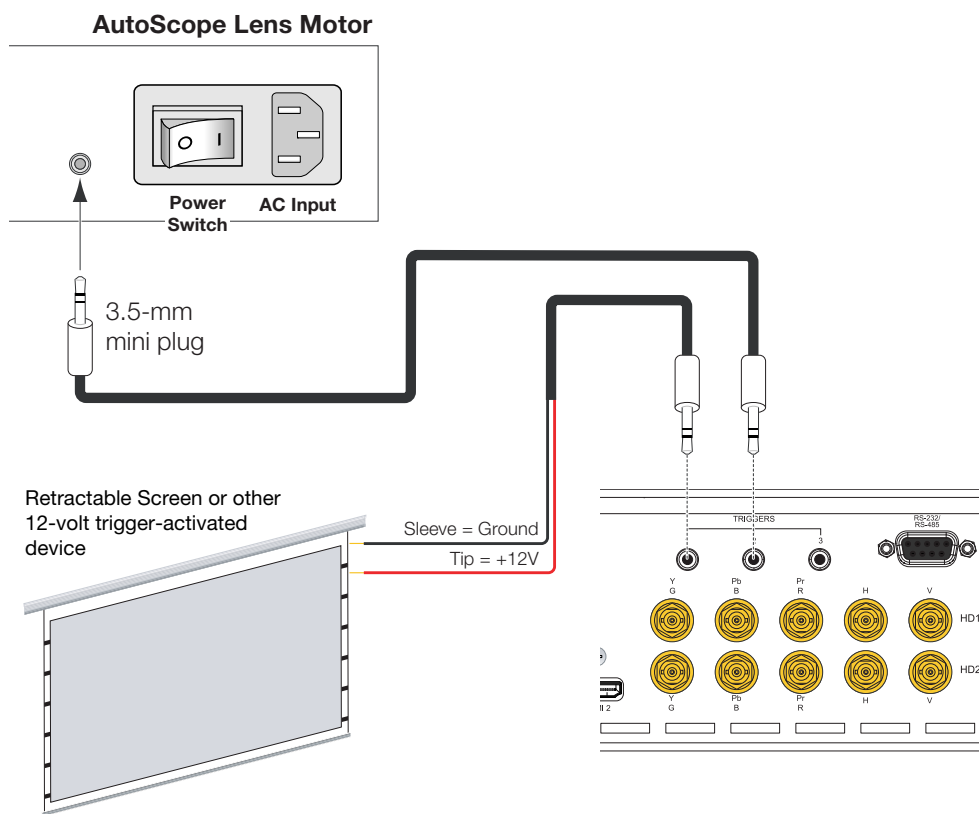

Figure 3-17. 12-volt Trigger Output Connections (from DHD Controller)
DHD Controller: If your VX-6000d is equipped with a CineWide with AutoScope system, connect the AutoScope lens motor to a 12-volt trigger output on the DHD Controller; see Figure 3-17.
3. If this is an AutoScope-equipped projector, turn on the main power switch at the rear of the AutoScope lens motor. The lens motor power switch is located next to the AC input (see Figure 3-17).